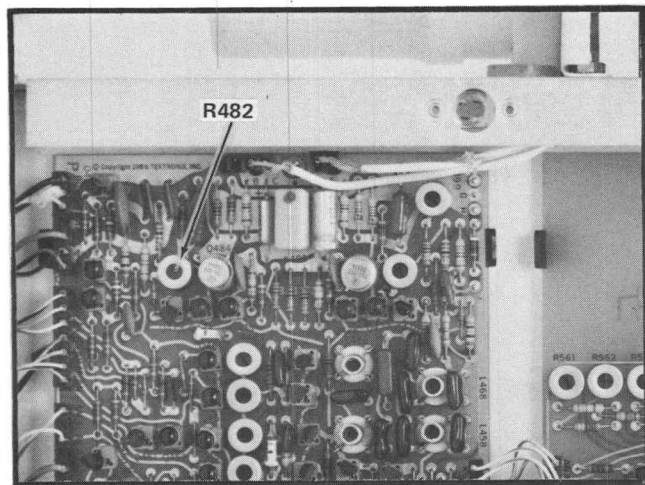

Fig. 5-2. Bar Drive and Video Out board adjustment location.
g. ADJUST—R482 (see Fig. 5-2) until the peaks of the red and cyan envelopes just meet.